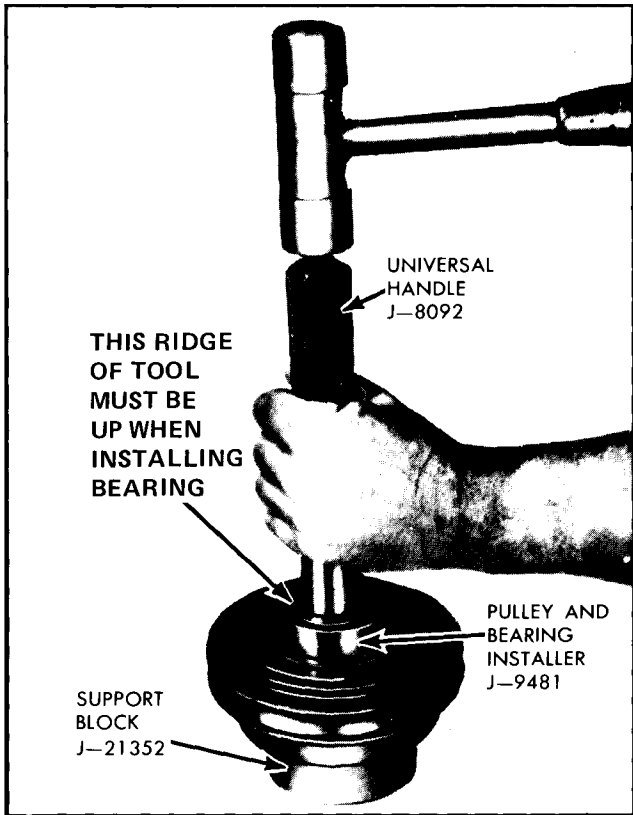

Figure 54—Installing Bearing on Pulley
1. Install new bearing in pulley using Pulley and Bearing Installer J-9481 with Universal Handle J-8092 (figure 54). The Installer will apply the force to the outer race of the bearing.